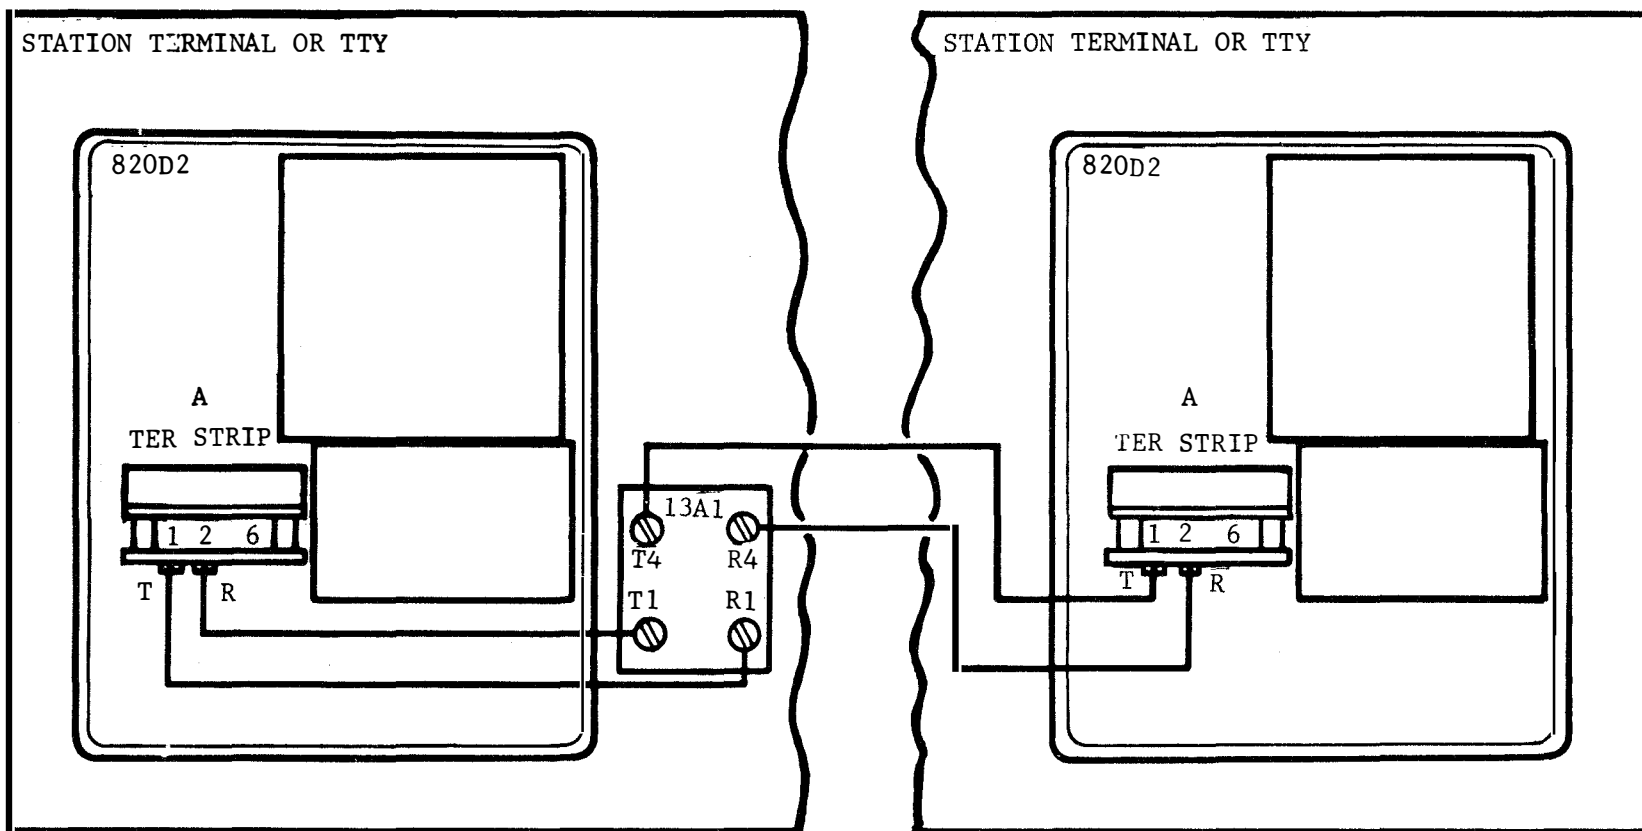

Figure 8 - Tip and Ring Connections (Back to Back DC Operation)
2.25 To connect two teletypewriters with 820D2 Auxiliary Data Sets and 109A Data Sets, the customer must provide the tip and ring leads. The ring terminal of one 820D2 Auxiliary Data Set must be connected to and thru the balanced resistor assembly to the tip terminal of the other 820D2 Auxiliary Data Set. The second line is wired in the same manner (Figure 8).